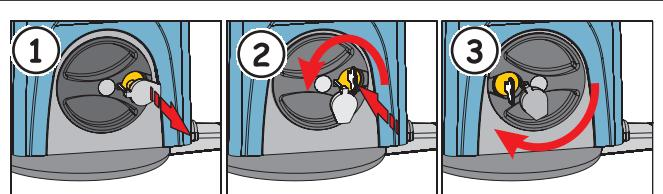

Fig. 18
- ① Cut power to the system with the differential switch.
- ② Lift the protective plug from the lock, fig.18 ref. ①
- ③ Fit the key and turn it anti-clockwise until it stops, fig.18 ref. ②.
- ④ Turn the release knob clockwise until it stops, fig.18 ref. ③.
- ⑤ Move the leaf by hand.